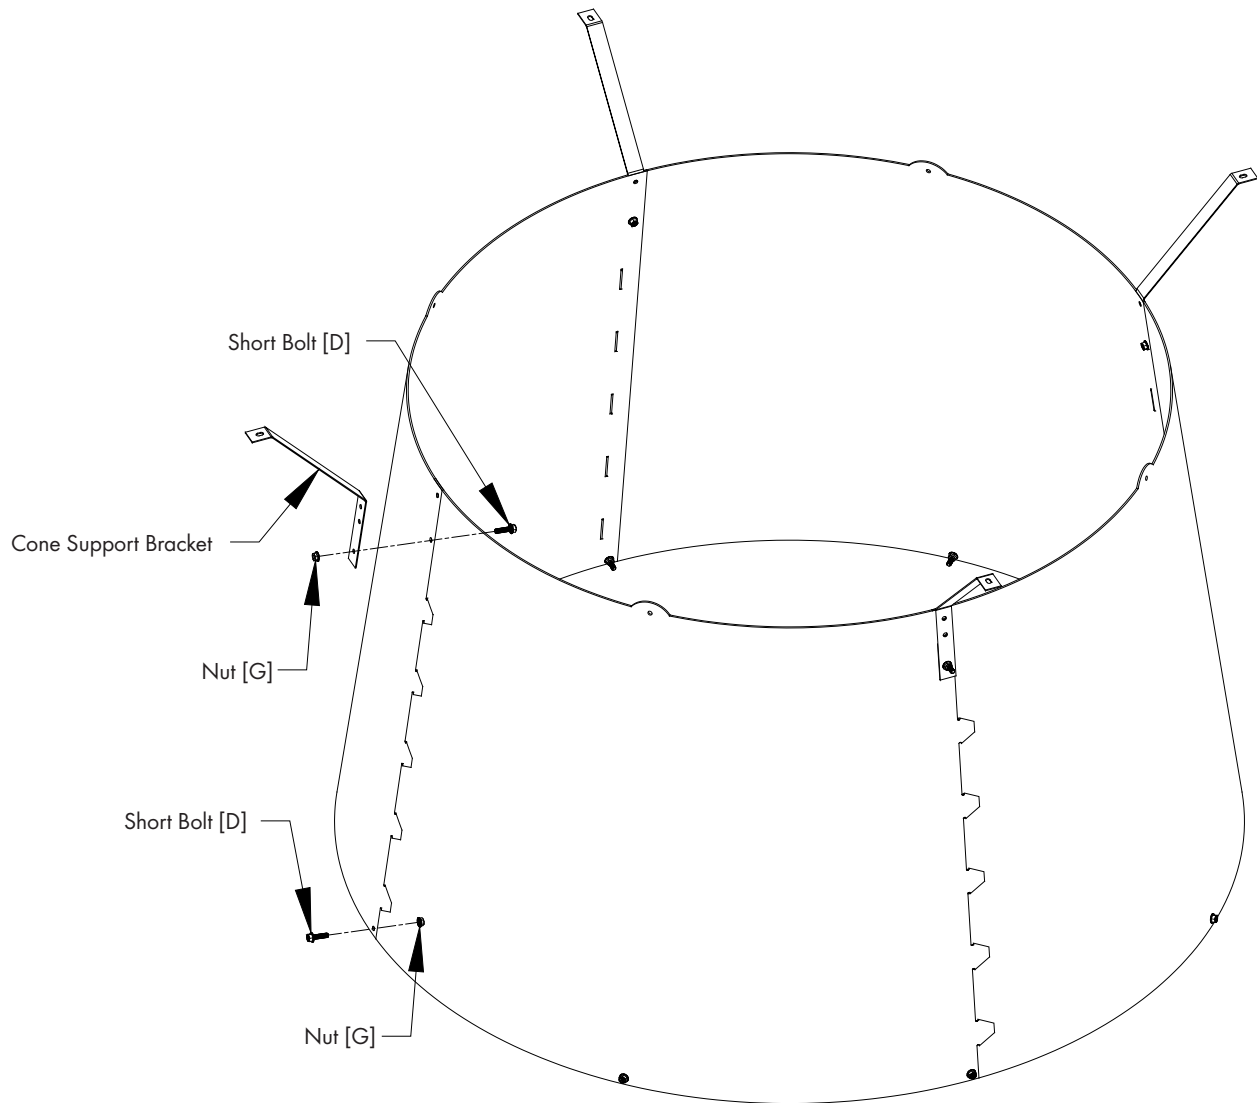

Figure 10B
Stand cone sections on end and curl ends around to form cone with Cone Support Bracket on outside and tabs on inside. Insert remaining tabs into slots so tabs are inside cone and fasten final joint using (1) Short Bolt [D] and Nut [G], with nut on inside of cone. At the inner pair of holes attach (1) Cone Support Bracket to the inner hole using (1) Short Bolt [D] and Nut [G] with bolt head on inside of cone. See Figure 10B.